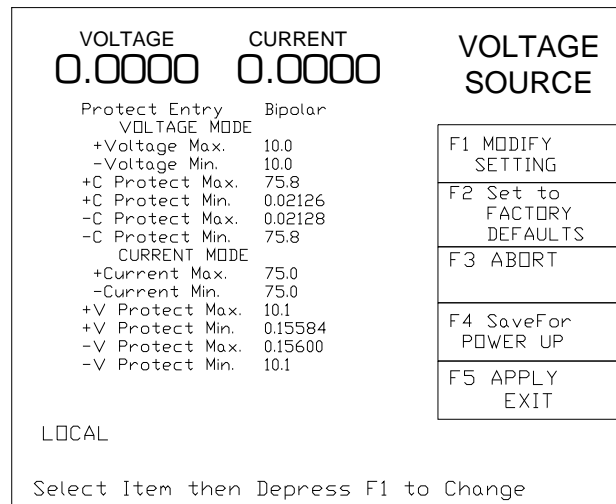

FIGURE 6. MAX/MIN SETTING MENU
2. Press **F1** to enter the Max/Min Settings submenu (Figure 6). (If a Password is required, see Operator's Manual for instructions.)